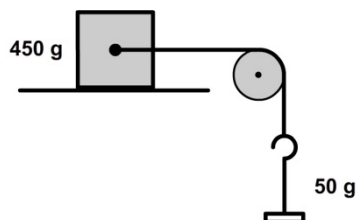

Figure 6 – Cart and Hanger; Horizontal Track
1. Set up your system with 200 grams on the cart and an empty mass hanger on the right side. (Figure 6.)